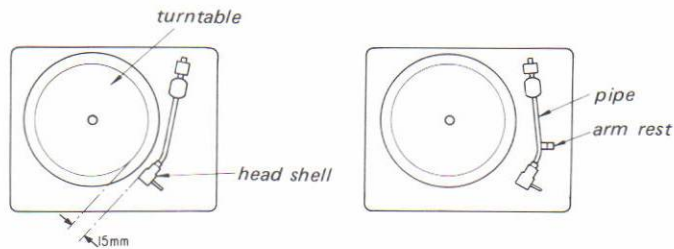

Fig. 3-10
3. Move the tonearm by hand and confirm that the neon lamp lights up just when the side of the head shell comes to a distance of 15 mm from the turntable rim as shown in Fig. 3-10.
4. Return the tonearm and confirm that the neon lamp goes off just when the center of the tonearm pipe comes to the tip of the arm rest as shown in Fig. 3-10.